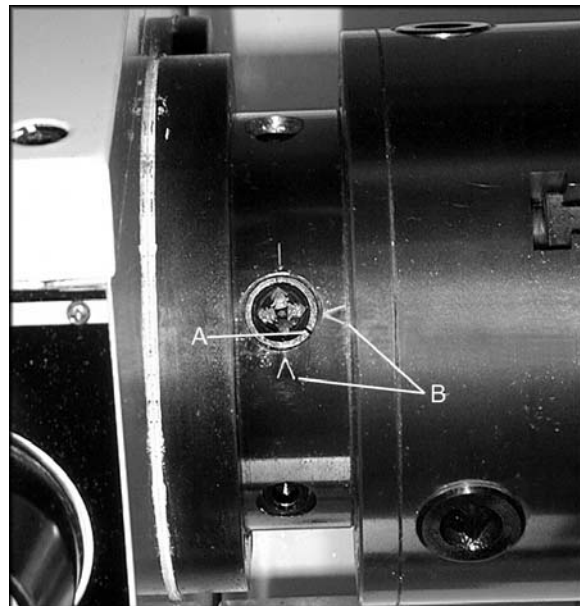

Figure 3
1. Support the chuck while turning three camlocks (Fig. 3) 1/4 turn counter-clockwise with the chuck key enclosed in the tool box.
5. Lift the chuck up to the spindle nose and press onto the spindle. Tighten in place by turning the cam locks 1/4 turn clockwise. The index mark (A, Fig. 3) on the camlock should be between the two indicator arrows (B, Fig. 3). If the index mark is not between the two arrows, remove the chuck and adjust the camlock studs by either turning out one full turn (if cams will not engage) or turning in one full turn (if cams turn beyond indicator marks).